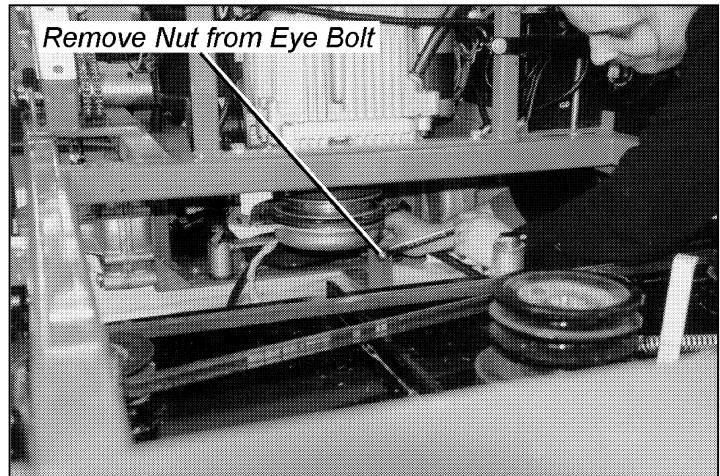

Figure 21
2. Remove the nut from the eye bolt on the main drive idler pulley (*Figure 21*).